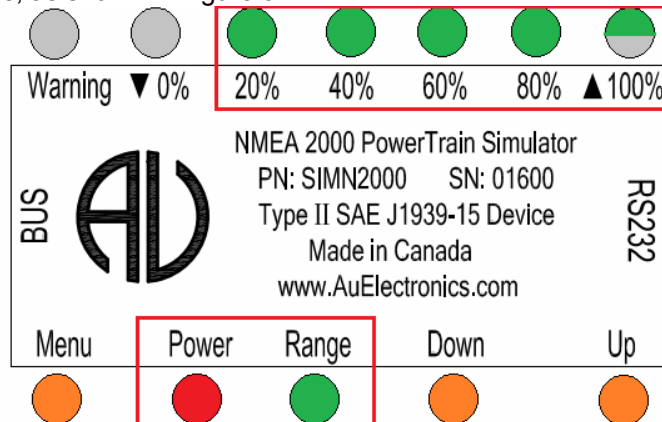

Figure 3-7 Power, Range, 20%, 40%, 60%, 80% are constant on, "▲100%" LED blinks, indicating data reaches 100%
- When control step value equals to 100%, the 20%, 40%, 60%, and 80% LED will be constant on. ▲100% LED blinks, as shown in Figure 3-7.